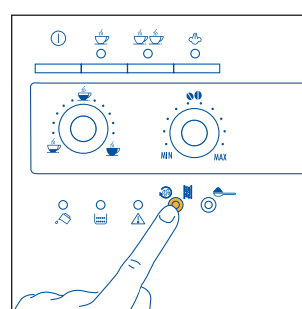

Fig. 14
1)) If, when the machine has just been turned on, a short cup of coffee is required (less than 60cc), use the hot rinsing water to pre-heat the cups (see the suggestion in par. 4.3, point 5). 1) If, when the machine has just been turned on, a short cup of coffee is required (less than 60cc), use the hot rinsing water to pre-heat the cups (see the suggestion in par. 4.3, point 5). If, on the other hand, more than 2/3 minutes have elapsed since the last coffee was made, before preparing **another coffee the infuser must be pre-heated, pressing the ☕ ☕ button** (Fig. 14).